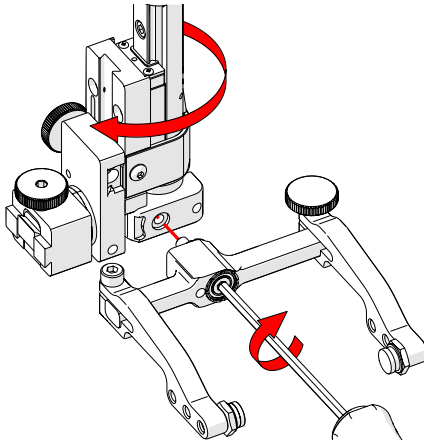

Fig. 52 - Screw yoke to opposite side
6. Mount the yoke to the opposite side of the base using the supplied 3 mm hex driver (Fig. 52).